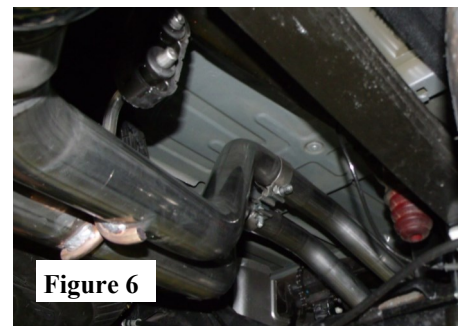

Figure 6
- Place clamp over the expanded end of the R/H Tail Pipe Assembly. Insert into **Muffler Assembly** outlet and insert hanger into rubber isolator. (See Fig. 6)